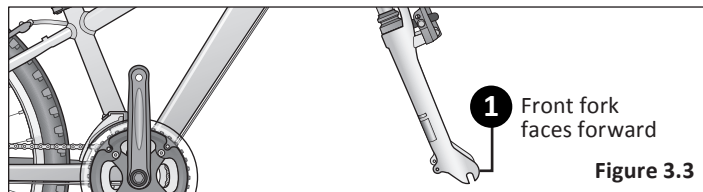

Figure 3.3
- 1 Turn the front fork to face forward. **Figure 3.3**
- ❶ Turn the front fork to face forward (ie: the fork dropout is in the furthest forward position). **Figure 3.3**